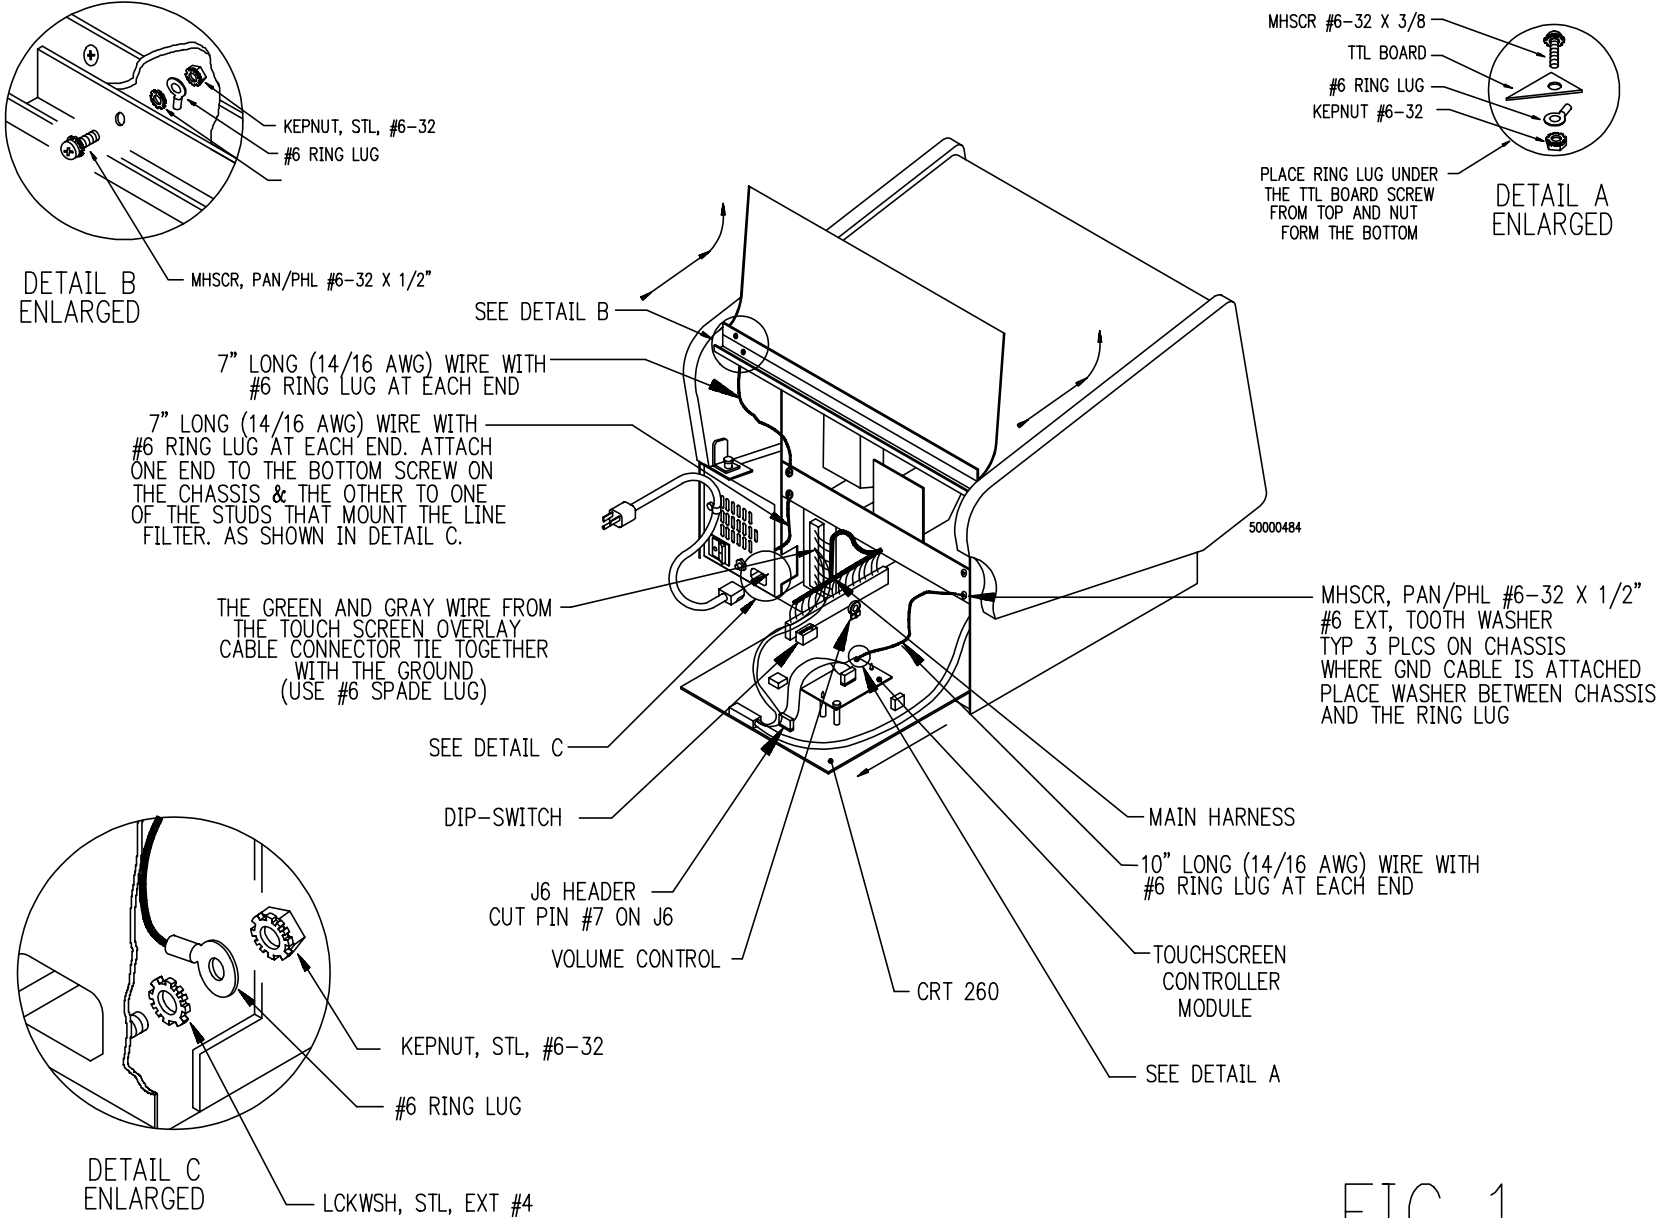

FIG 1
3. Remove the ribbon cable attached to header J6 (2 x 7) on the CRT-260 board and cut Pin 7 on J6. Header J6 can be seen in Figure 1.
Attach the other end to the chassis as shown in Figure 1. Use a #6-32 x 1/2" and a #6 lock washer. Make sure that the washer is between the ring lug and the chassis.
Attach the ring lug on one of the 7" wires to one of the studs that mounts the line filter. Put the #4 lock washer between the lug and filter. This can be seen in Figure 1, detail C.
Using a #6-32 x 1/2" screw and a #6 lock washer to connect the free end of the wire to the chassis as shown in Figure 1.
7. Referring to Figure 1, detail B, remove the screw securing the left-hand side of the lid hinge to the chassis. Use a #6-32 x 1/2" machine screw, a #6 external tooth lock washer and a #6-32 kepnut. Be sure to attach the ring lug on the underneath side of the lid.